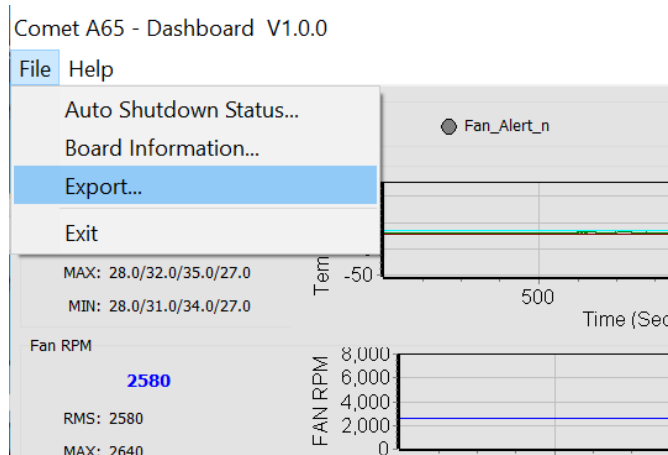
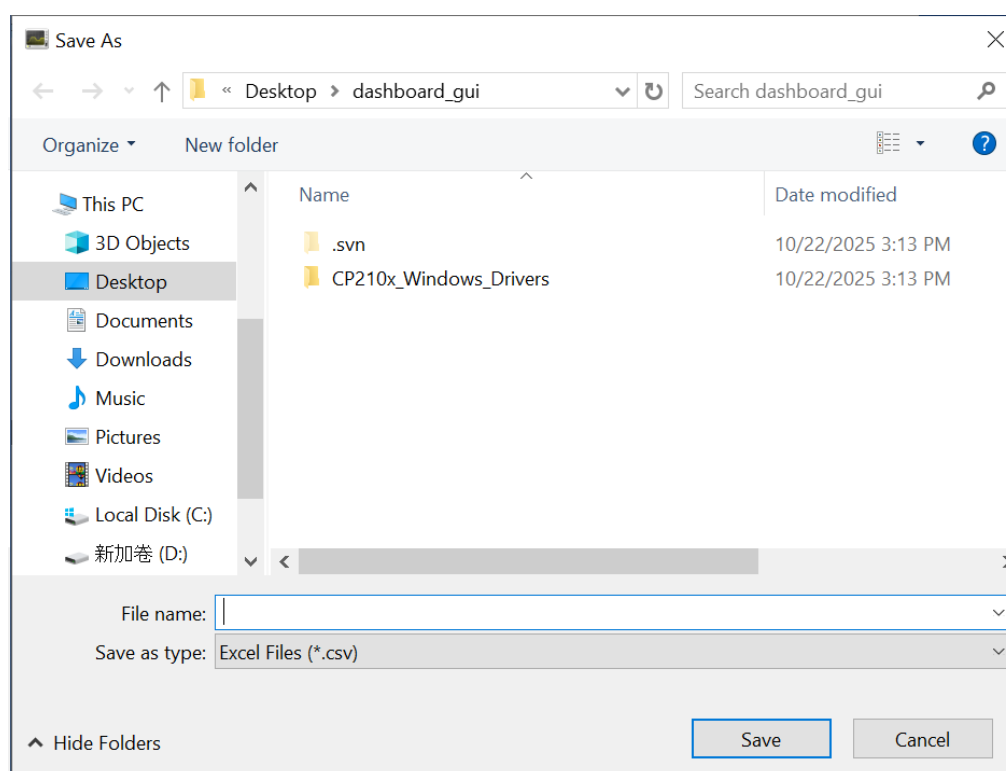

Figure 3-17 Export the log file
Figure 3-18 Export the log file in .csv format
- **Log File:** On the upper left of the Dashboard GUI program window, click the Export in the File page to save the board temperature, fan speed and voltage data in .csv format document, as shown in **Figure 3-17** and **Figure 3-18**.